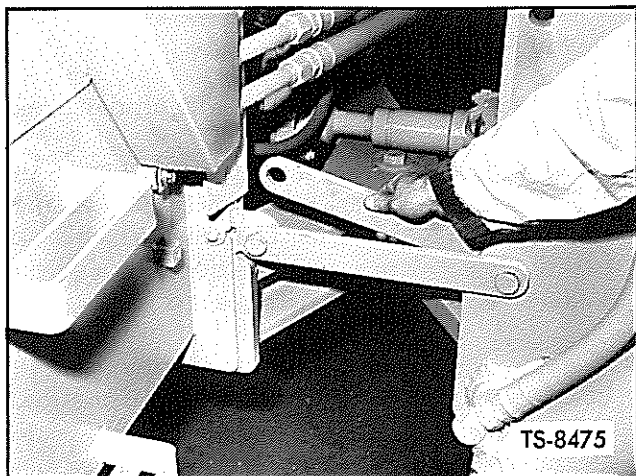

Fig. 47. Check Safety Links
*Note: Adjust, repair or replace safety links that do not connect properly or have been damaged. See Figure 47.*